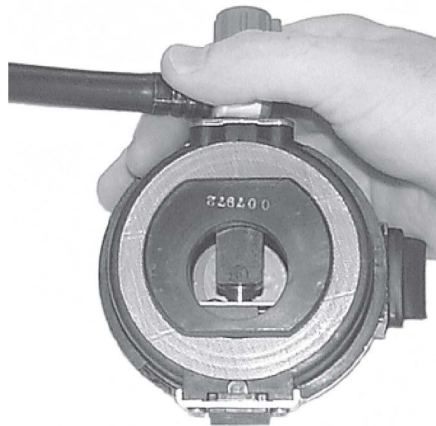

FIGURE 14
3. Inspect the inside of the regulator assembly through the regulator opening (see FIGURE 14). If excessive dirt or soil is present, forward regulator assembly to SCOTT trained authorized personnel for thorough cleaning.
4. Depress the donning/air saver switch, close the purge knob by turning fully clockwise. Use the SCOTT recommended sanitizing or disinfecting cleaner in the regulator opening and the immediate area around the opening (see FIGURE 14). Be sure to cover internal components completely.